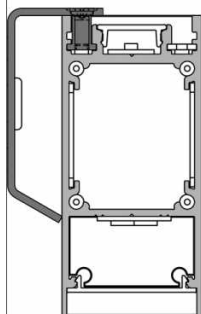

FIG. 2 - MAKE ELECTRICAL CONNECTION
1. MAKE ELECTRICAL CONNECTION: CONNECT LED STRIP TAILS TO LED DRIVER CABLE, THEN SEAL WITH HEAT SHRINK (OR SEE FIG. 2 IF SUPPLIED WITH MALE/FEMALE CONNECTORS).